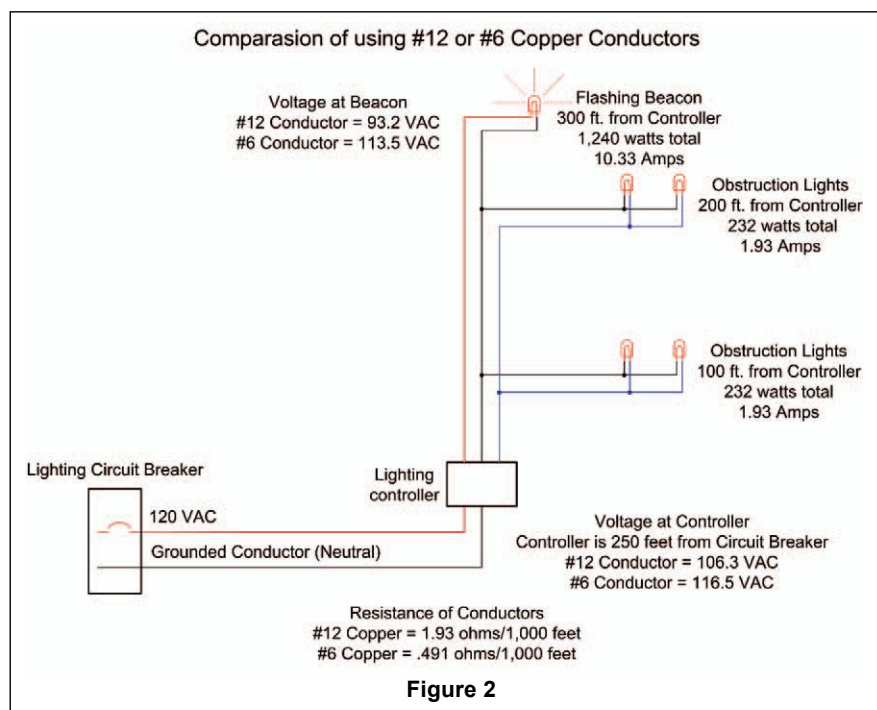

Figure 2
The tower was about 300 feet high. There was a beacon at the top and two sets of two obstruction lights. It was located 250 feet from the transmitter building. The lighting conductor size was #12 AWG copper. The tower lighting controller and flasher were located on the tower. The beacon had two bulbs, each rated at 620 Watts and the obstruction light bulbs were each rated at 116 Watts. The rated power consumption for the tower lighting was 1,704 Watts. At the nominal line voltage of 120 Volts the total current draw was 14.2 Amps. According to the NEC, the #12 is permissible to use, but in this case, the voltage at the beacon was 93.2 Volts due to the resistance in the conductor. When this wire was changed to #6 copper conductor, the voltage was 113.5 Volts. (Fig. 2)
2. Looking at **Figure 2**, obtain a 26" x 30" 24 gauge piece of sheet metal and bend it to the shape shown. I had my local heating guy do a great job for \$20. This will become the chassis for your dummy load. You will need a few aluminum straps across the ends to give the chassis rigidity.